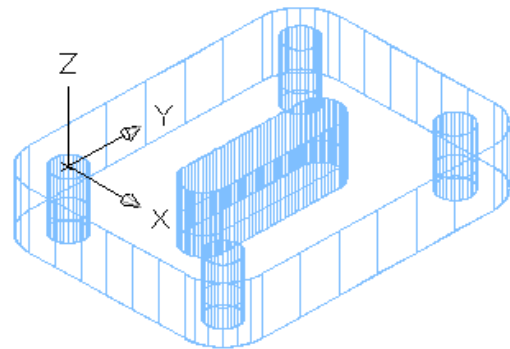

Figure Step 10
Step 10 Turn layer Model off and your model should appear as shown in Figure Step 10.